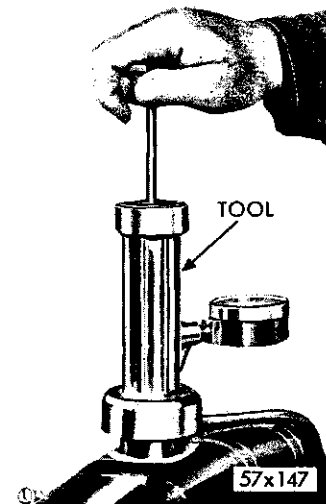

Fig. 8—Pressure Testing the Cooling System
(2) Attach the tester, Tool C-3499 to the radiator, as shown in Figure 8 and apply 15 pounds pressure. If the pressure drops inspect all points for external leaks.